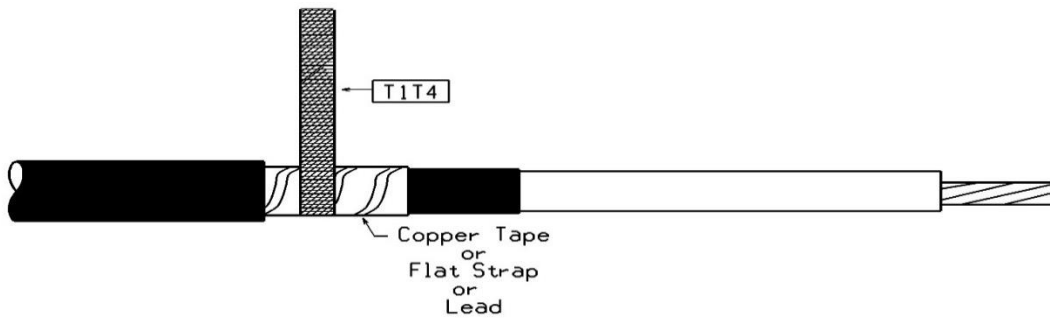

Figure 15
2. Hold the braid perpendicular to the cable and make at least one complete wrap around the cable. Refer to Figure 15